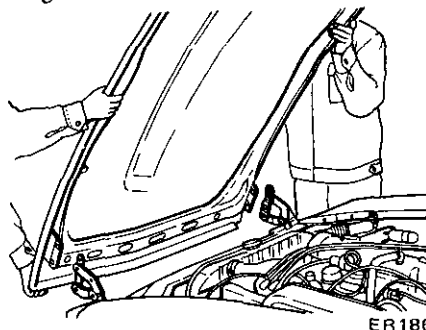

Fig. ER-2 Removing hood
(1) Mark hood hinge locations on hood to facilitate proper reinstallation.
(2) Support hood by hand and remove bolts securing it to hood hinge, taking care not to let hood slip when bolts are removed.
(3) Remove hood from hood hinge with the help of an assistant. See Figure ER-2.